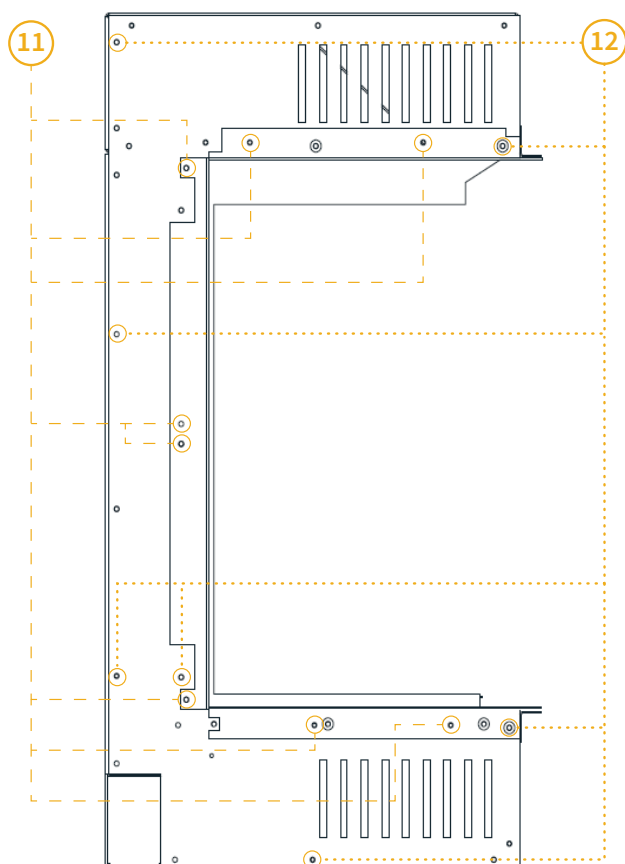

Figure.8.3 | Side view part indications
- After removing the glass retainer strip, place the suction cup on the glass before removing the second glass retaining strip. See Figure 8.3.